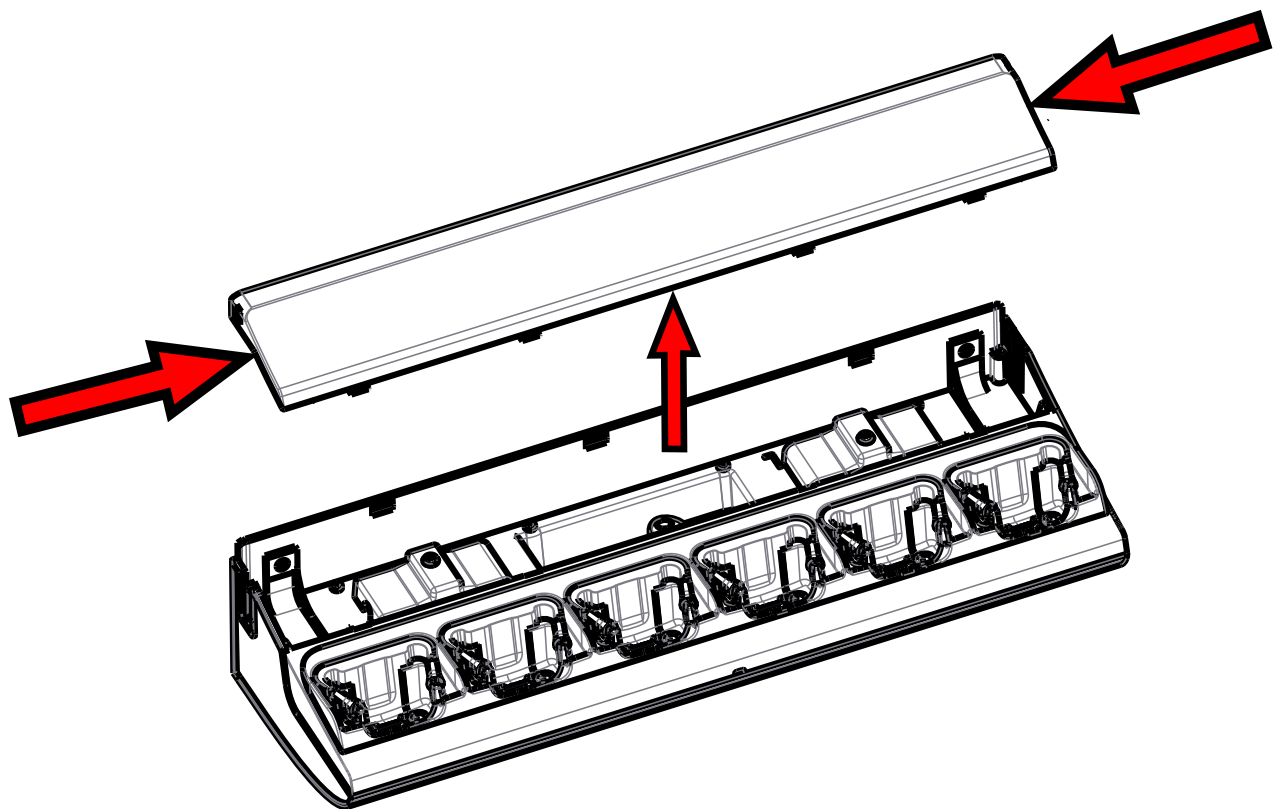

Figure 5: Opening the top cover
- 10) Replace the top cover, see Figure 5: Opening the top cover on page 10.